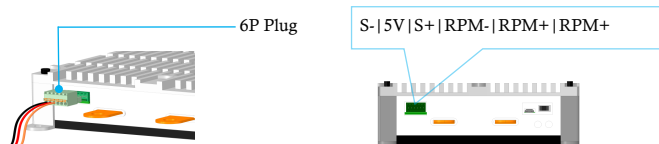

Fig. 4: Signal wiring diagram
Step ③: Connect the signal wires and plug into the 6P signal socket (see: Fig. 4)